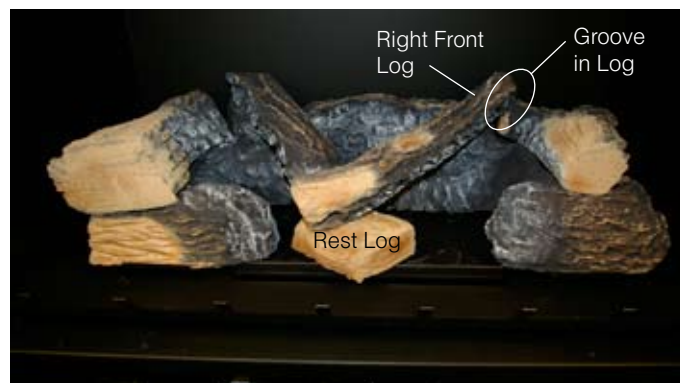

Figure 30f. Placing Right Front Log.
Step 8. Place the Right Front log as shown using the notch in the Top Right log as a guide, figure 30f.